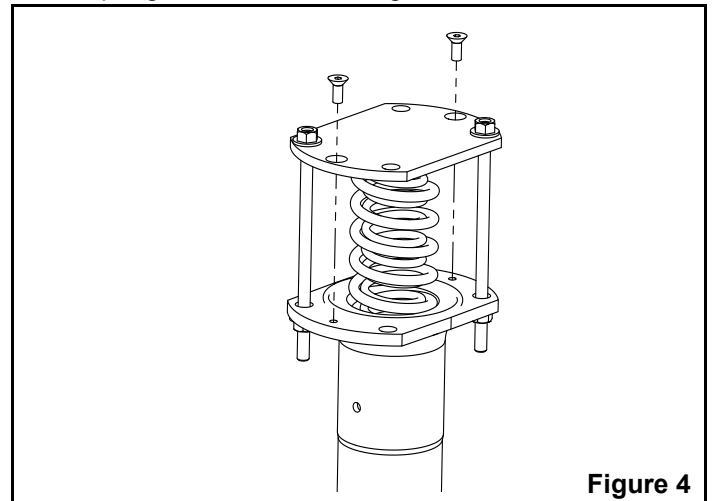

Figure 4
7. After the tension is removed from the cover, the spring box tools and the cover can be removed. See Figure 4.
10. Place a drift pin or 5/8” dia. steel rod into the connecting pin hole in the ram head (#14). Use this to hold the ram head from turning while removing the flange lock nut (#19). Remove and discard flange lock nut (19).
8. Insert the spring box tool (MBW #20260) rods into the spring box as shown in Figure 4.